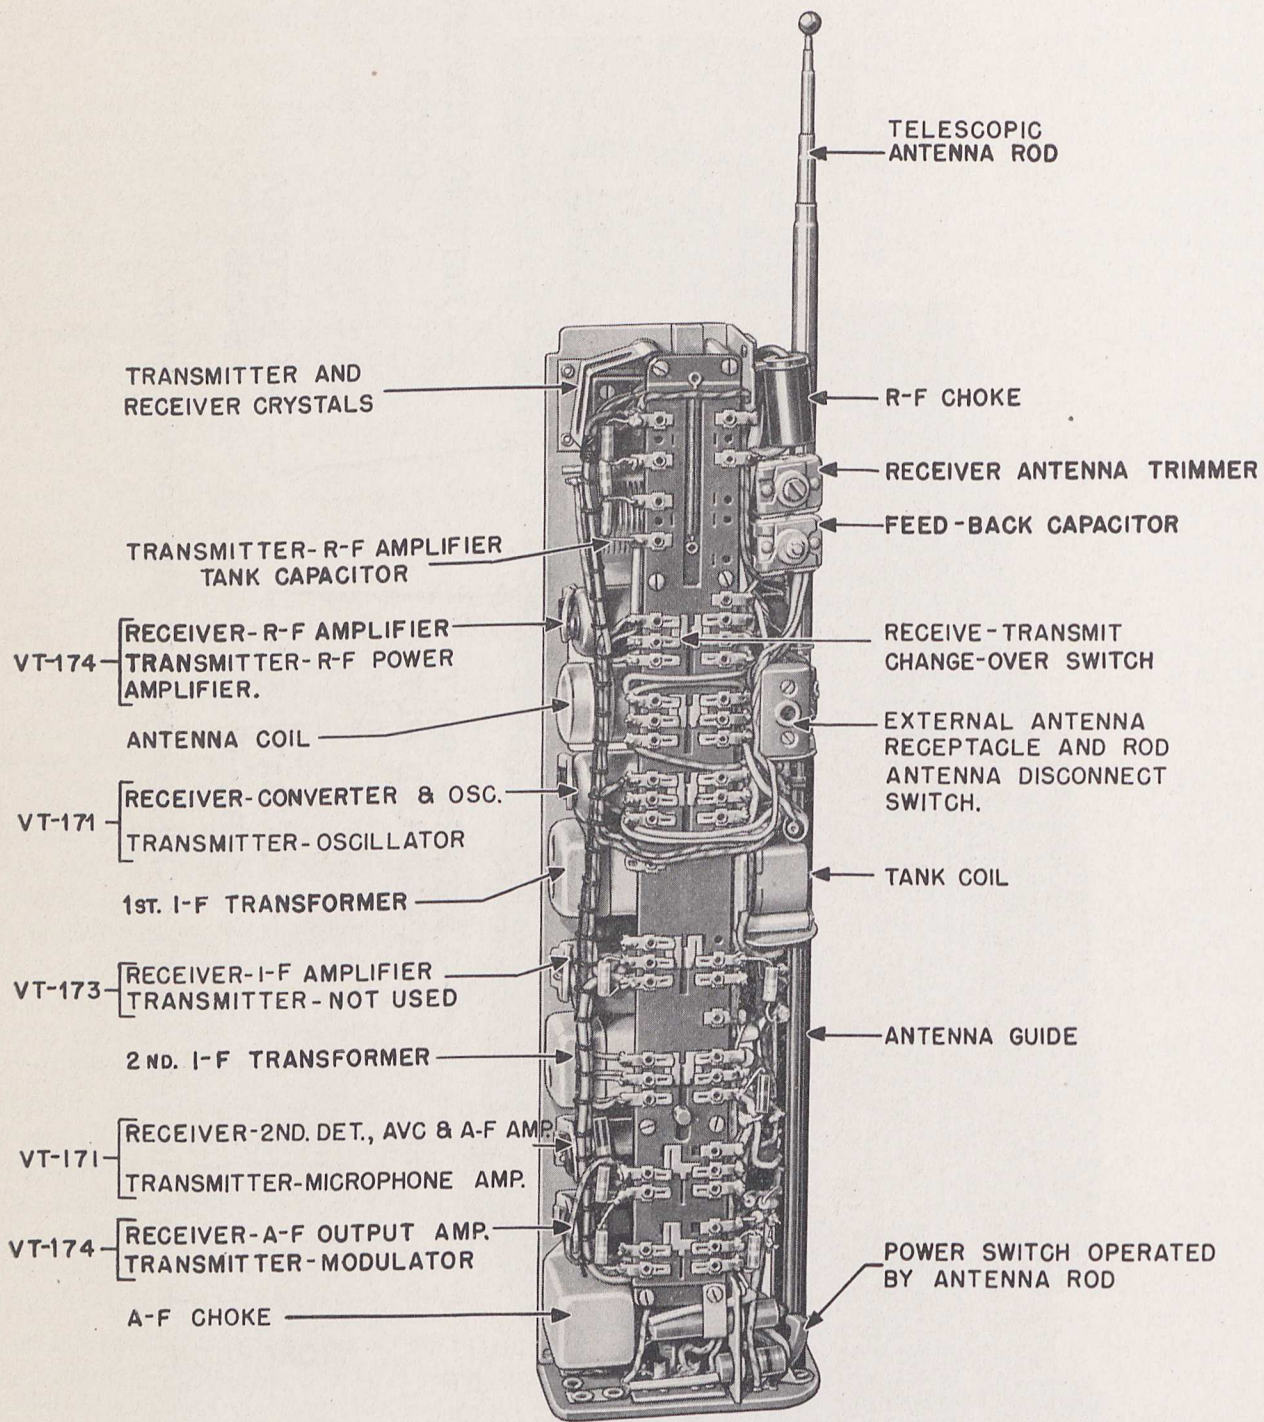
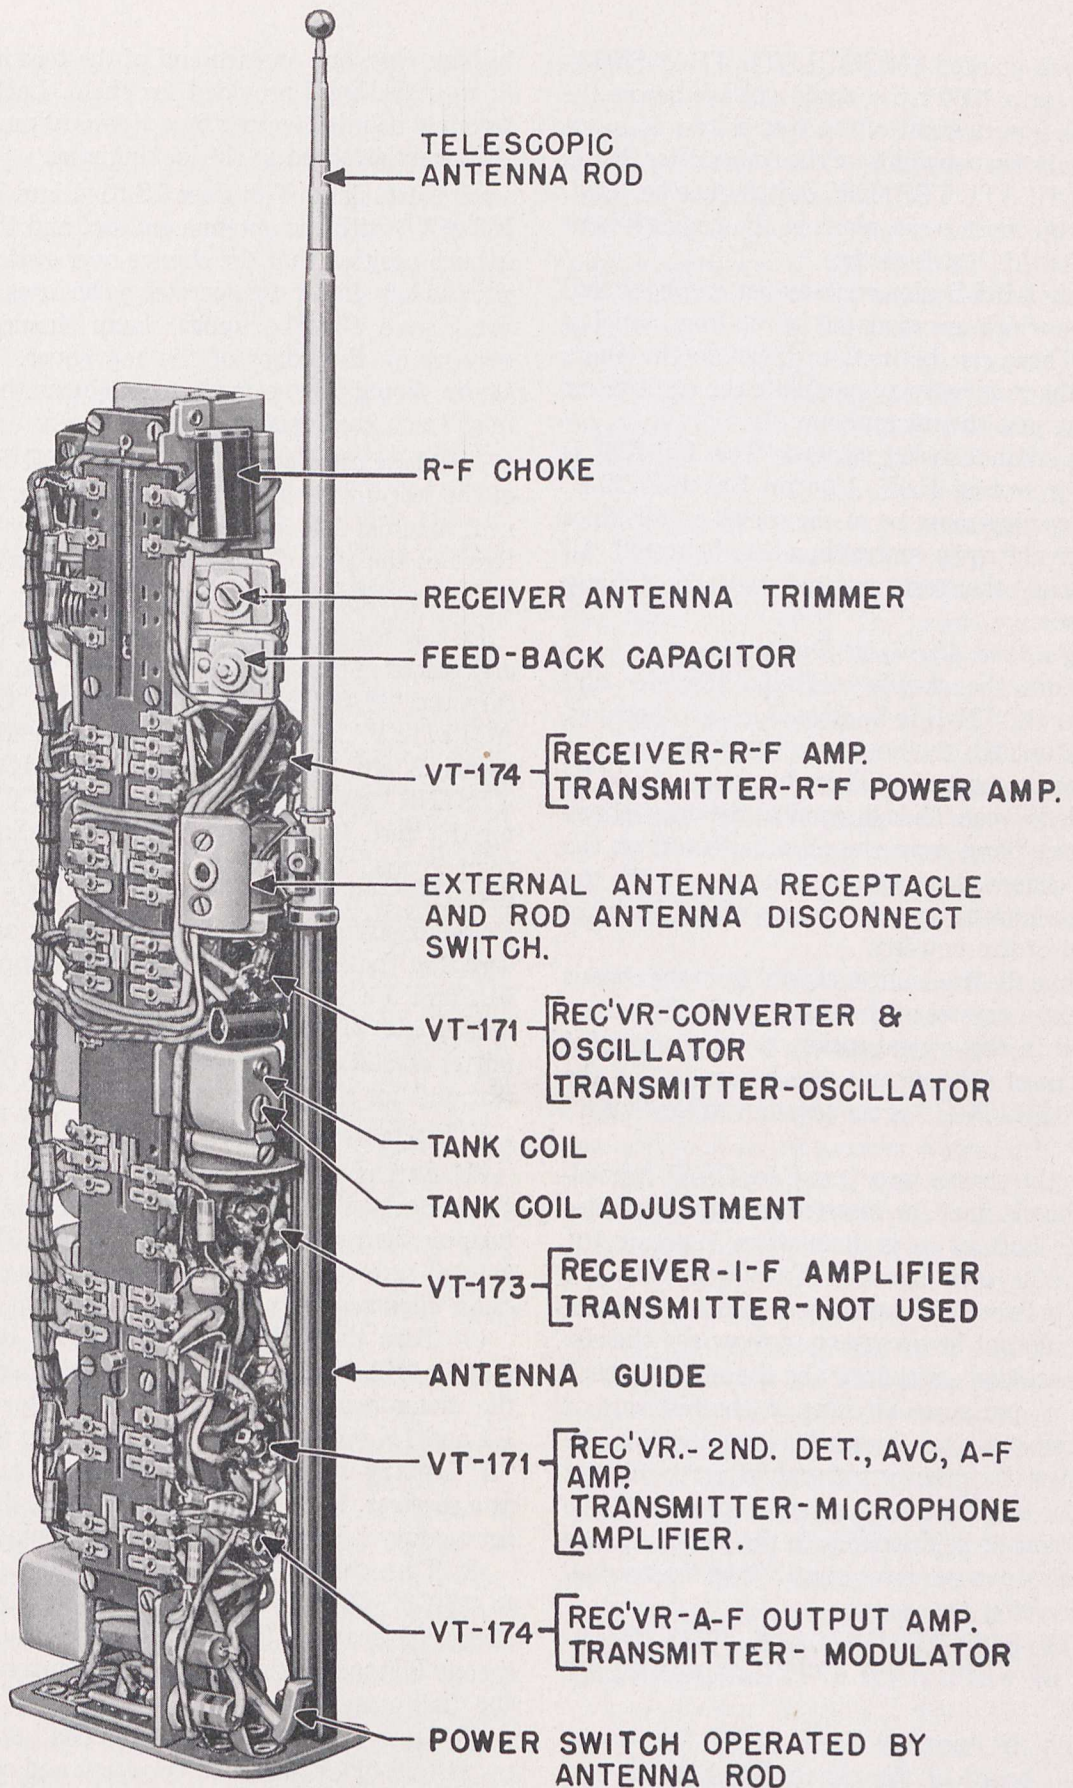

FIG. 15. RADIO RECEIVER AND TRANSMITTER BC-721-B, CHASSIS (FRONT VIEW)
FIG. 16. RADIO RECEIVER AND TRANSMITTER BC-721-B, CHASSIS (BOTTOM VIEW)
26. REPLACEMENT OF THE ANTENNA COIL.—The antenna coil is of the "plug-in" type. It can be easily removed and replaced. See Fig. 15.
27. REPLACEMENT OF THE R-F TANK COIL.—To remove the coil, loosen the screw holding down the spring clip on top of the coil; then swing the clip free of the coil. The coil can then be lifted out of the socket. When replacing, fit the coil carefully over the two pins projecting up from the socket so that the pins fit into the holes in the coil form and the coil adjustment fits into the hole in the socket. Gently press the coil into the socket and replace the spring clip on top of the coil. See Fig. 15.
30. REMOVAL AND REPLACEMENT OF THE CRYSTALS.—The crystals are mounted in "plug-in" type holders. To remove a crystal, lift up the clamp located on top of the crystal holder. This clamp pivots on a stud fastened to the chassis. Place a screw driver between the crystal holder and the socket and gently pry it up. See Fig. 15.
The antenna coil is larger and of a different shape than the tank coil. Its base connections also differ, so there can be no possibility of getting the coils in the wrong sockets. Both coils are of the plug-in type to simplify replacement. See Fig. 15, and Fig. 16.